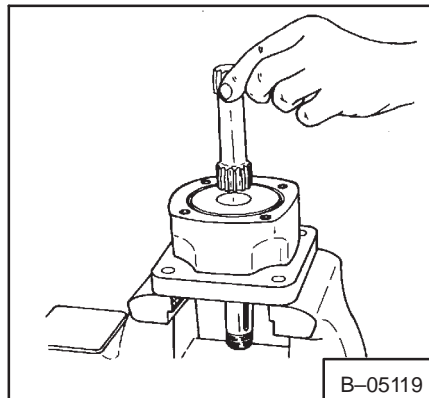

Fig. 3-47 Removing The Drive Shaft
17. Remove the drive shaft (Fig. 3-47).